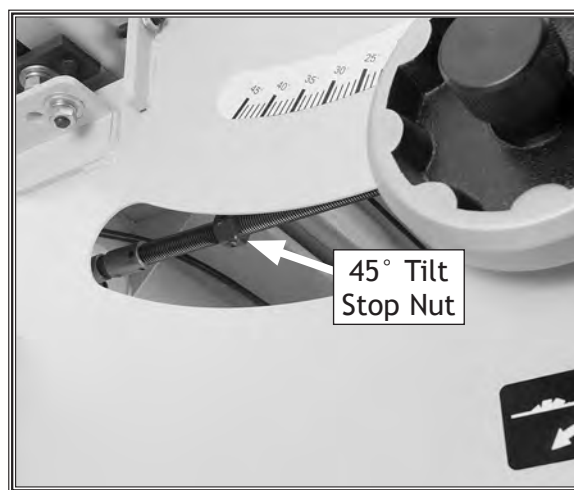

Figure 122. 45° Blade tilt stop nut.
- If the blade is not 45° to the table, loosen the two set screws that secure the 45° tilt stop nut shown in **Figure 122**. (This nut can also be accessed from the front of the saw by moving the sliding table all the way forward.)